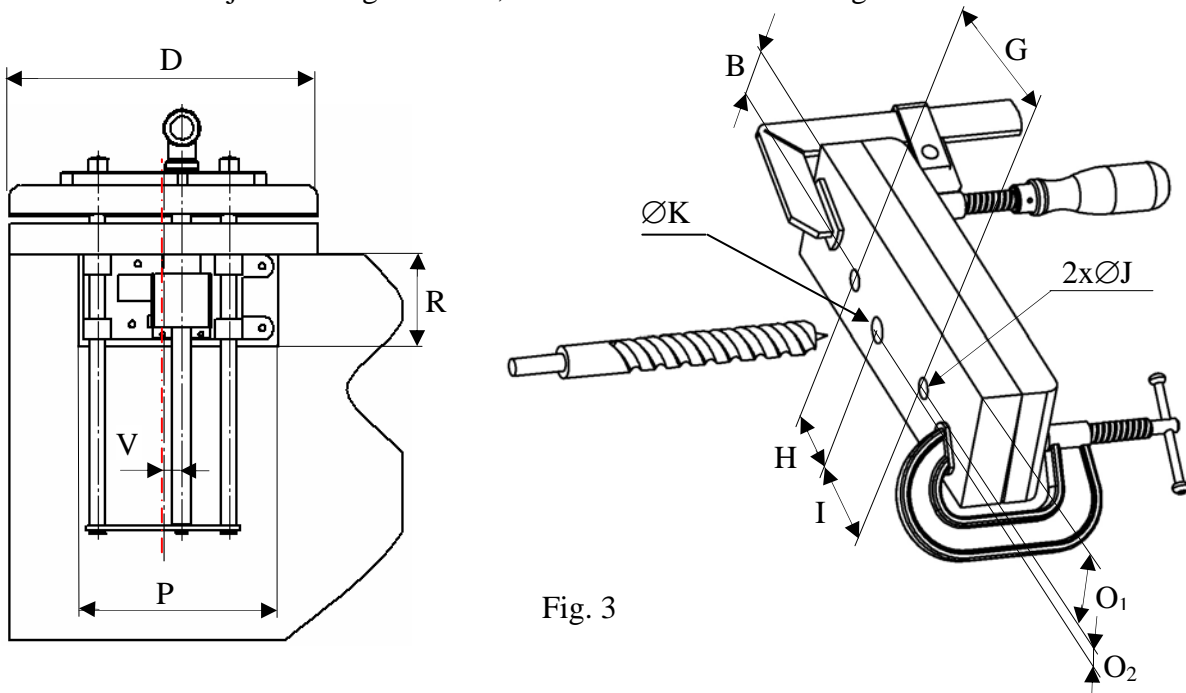

Fig. 3
It is important to note that vice HVQ516 is not axially symmetrical. This must be taken into account when measuring and making openings “ $\varnothing J$ ” and “ $\varnothing K$ ” at distances “ $O_1$ ”, “ $O_2$ ”, “ $G$ ”, “ $H$ ”, “ $I$ ” see **Tab. 1**. Now measure out the openings for the spindle (3) and guide rods (5) onto the front and rear additional jaw, and bench collar, if applicable. To make work easier it is possible to drill the front and rear jaws together by clamping them using a C-shaped brace or clamp – see Fig. 3.
Preparation of spacer according to dimensions **E**, **P** and **R** – see Fig. 3 and Tab. 2